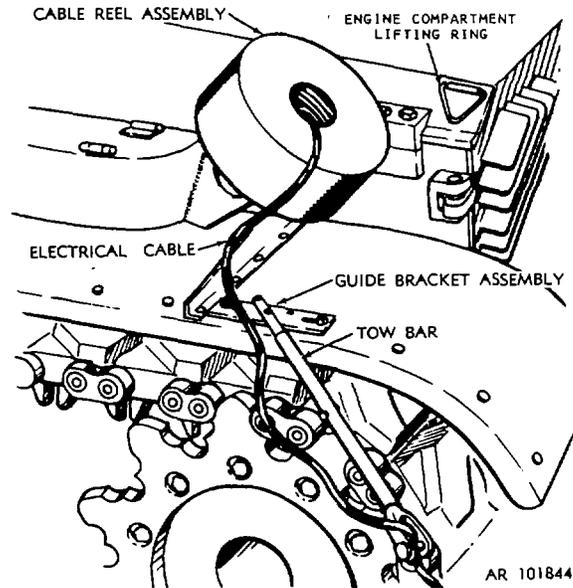

Figure 2-14. Left rear view of towing vehicle with guide bracket assembly attached.
f. Remove two conveniently located bolts and nuts from rear fender of towing vehicle and attach guide bracket assembly to fender and bolt down (fig. 2-14).
Installation of the cable reel on a typical tank is illustrated in figure 2-14. If cable reel does not fit properly on lifting eye, use improvised shim such as a piece of wood to wedge reel in upright position. If cable reel does not fit properly on a tank lifting eye, use the engine compartment lifting ring.